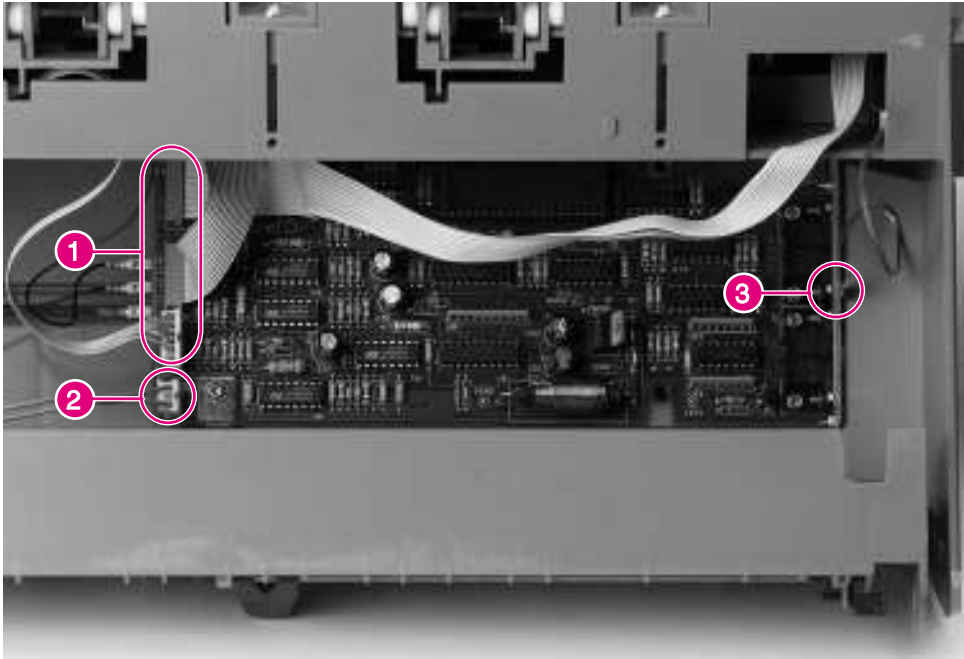

Figure 6-185 Stapler Controller PCA (2 of 3)
- 4 Unplug the cables that are connected to the PCA. Identify their color and size and the ground cables (see figure 6-185, callouts 1 and 2).
- 3 Unplug the ground and signal cables from the right side of the Stapler Controller board, being careful to keep them in the cable holder. See callout 1 and 3 on figure 6-185.
- 6 Disconnect the 2 cables in the hinge containing cables from the Stapler Controller PCA (see figure 6-185 on page 482, callout 2).